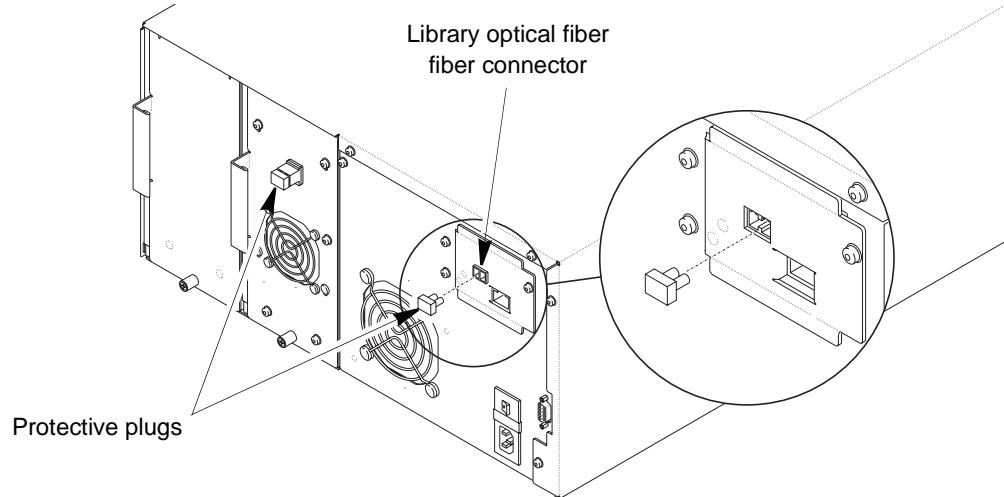

Figure 2-12 Removing the protective plugs from the optical fiber connectors
1. Remove the protective plugs (if present) from the library's optical fiber connector and the optical connectors on each tape drive (see Figure 2-12).